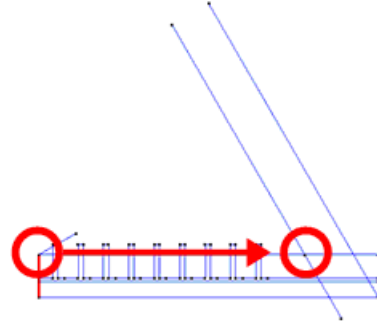

Figure 11. Copy of the vertical line segment starting at the origin of coordinates
- 8 . From the **Copy** window, choose **Lines** and **Translation**. As the first and second points of the translation, enter the points indicated in Figure 11. To do this click on the point icon and click on the desired point. The "x", "y", "z" entries are filled automatically. Enter 1 in **Multiple copies**. Click **Select** and select the vertical line segment starting at the origin of coordinates. Press **ESC**.